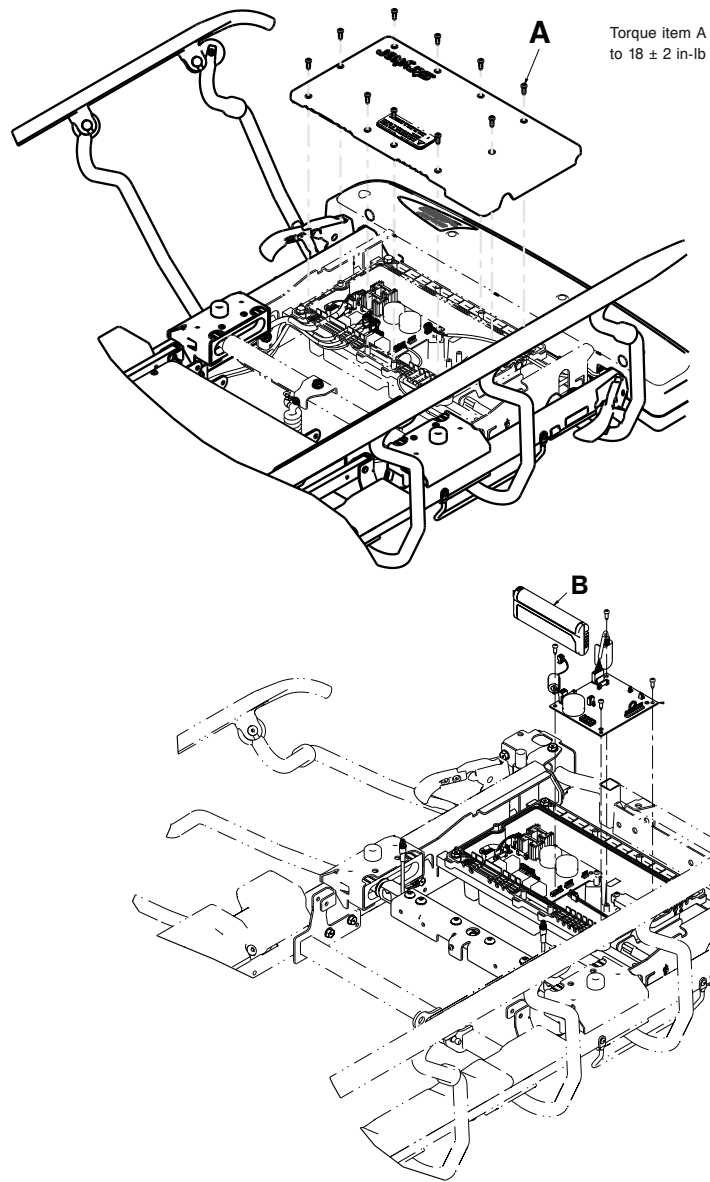

Figure 55 – Scale battery replacement - electric
5. Using a #2 Phillips screwdriver, remove the 10 pan head tapping screws (A) that secure the control board cover on the scale/**Chaperone** control box bottom (Figure 55).